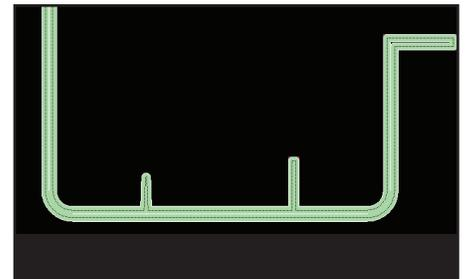

Figure 56: Result – solid fill for thin walls.
5.4.9. Generate toolpaths (Figure 56).